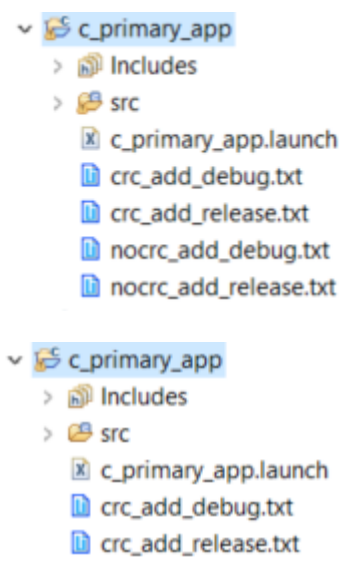

Figure 7.39. Copied Text Files
6. The text files are now added under the bare-metal App C project as shown in Figure 7.39.